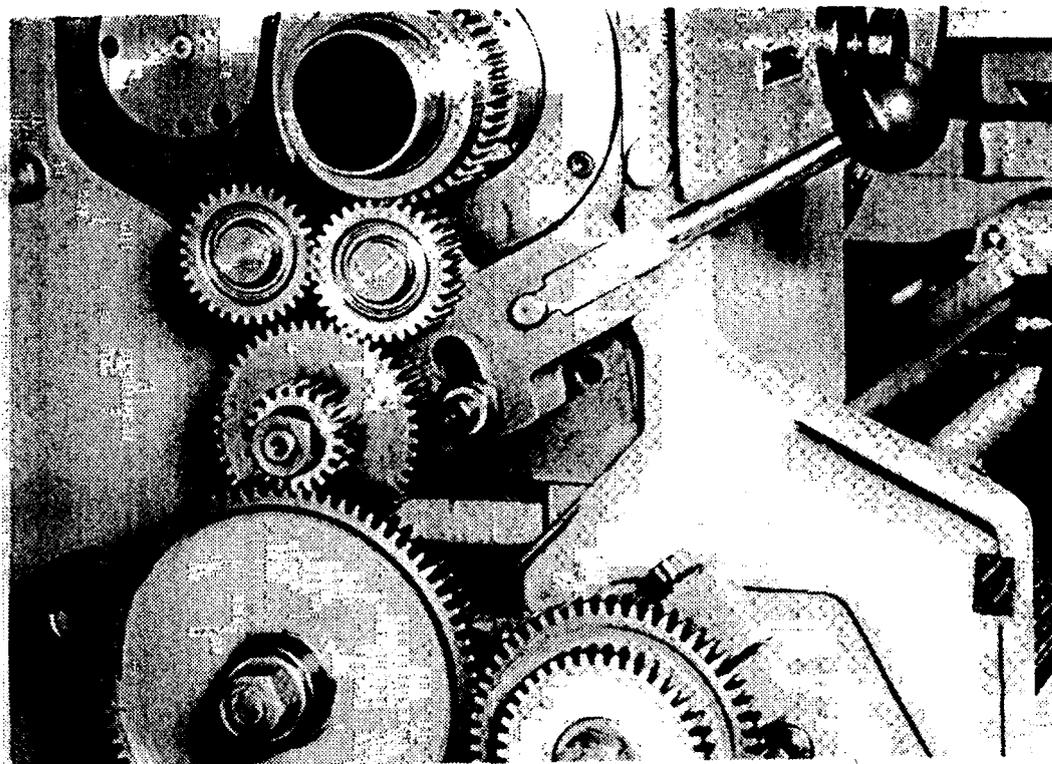

Fig. 16. Reverse gear
In the top position of the lever with conventional change gear set up (as in Fig. 16) the main leadscrew will revolve in the same direction as the main spindle; in the bottom position the main leadscrew will revolve in the opposite direction to the main spindle, and in the central position the change gear train is disengaged from the main spindle.
- 5. REVERSE GEAR BRACKET. Oil the bracket and gears at least daily when in use. (Fig. 16).